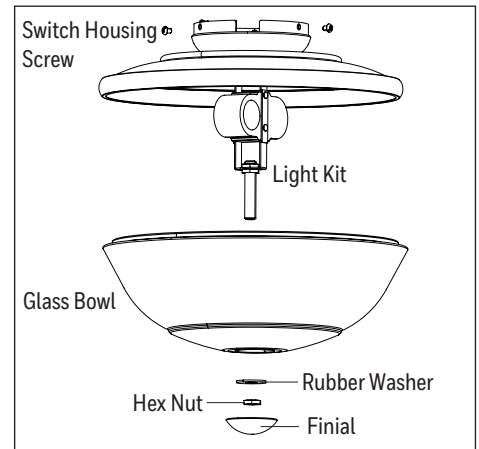

Figure 5.6
- Remove the three switch housing screws from the top edge of the light kit. Then, remove the finial, hex nut, rubber washer, and glass bowl from the light kit (Figure 5.6).